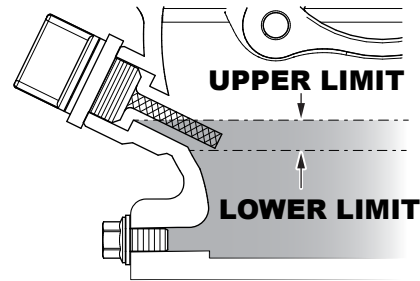

Figure 5. Engine Oil Dipstick (Oil Level)
4. If the oil level is low (Figure 5), fill to the edge of the oil filler hole with the recommended oil type (Table 4). Maximum oil capacity is 1.16 quarts (1.1 liters).
5. Make sure the buggy is level and verify that the oil level is maintained between the two notches (Figure 5) as shown on the dipstick. Reference Table 4 for proper selection of engine oil.